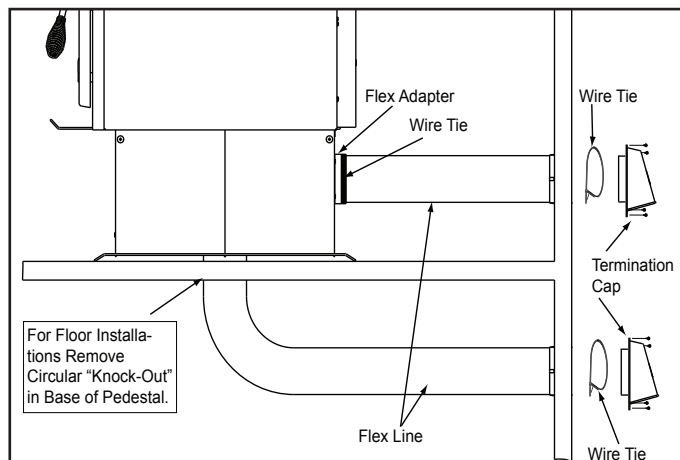

Figure 38.1 - Floor & Rear Installation
2. Using a #2 Phillips screw driver attach the flex adapter to the appliance using 4 screws. Secure with wire tie. **Figure 38.1.**
5. **Floor Installation Alternative:** In some instances you may not be able to install the flex pipe as show in **Figure 38.1.**